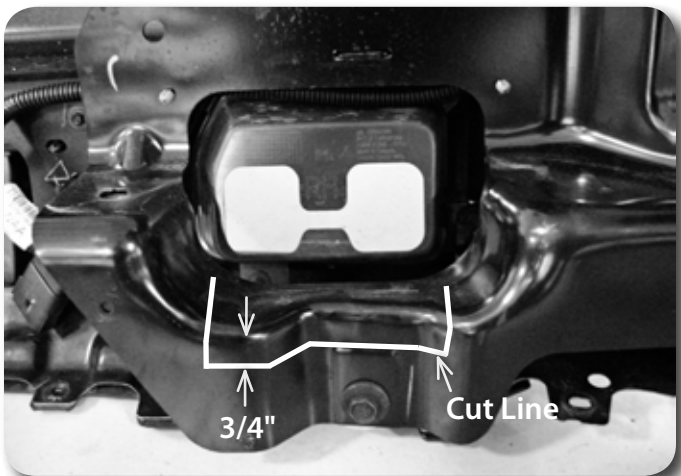

Figure 15
24. The front bumper mounts will also need to be modified. Make a cut mark $\frac{3}{4}$ " below the edge of the bracket as shown. **Figure 15** Finish the cut line by going straight up to the original opening in the bracket. Cut at the marks with a cut off wheel or reciprocating saw.